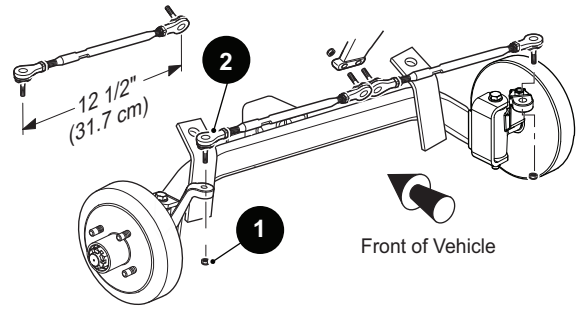

Figure 3 Tie Rod Replacement
- Remove the nut (1) from the ball joint (2) (Ref Fig. 3). Insert a ball joint separator between the ball joint and the linkage and separate the ball joint from the linkage at both ends.
- Adjust tie rod to 12 1/2" (31.7 cm) between center of tie rod ends and install in reverse order of disassembly. (Ref Fig. 3) The nut (1) should be tightened to 35 ft. lbs. (50 Nm) torque.